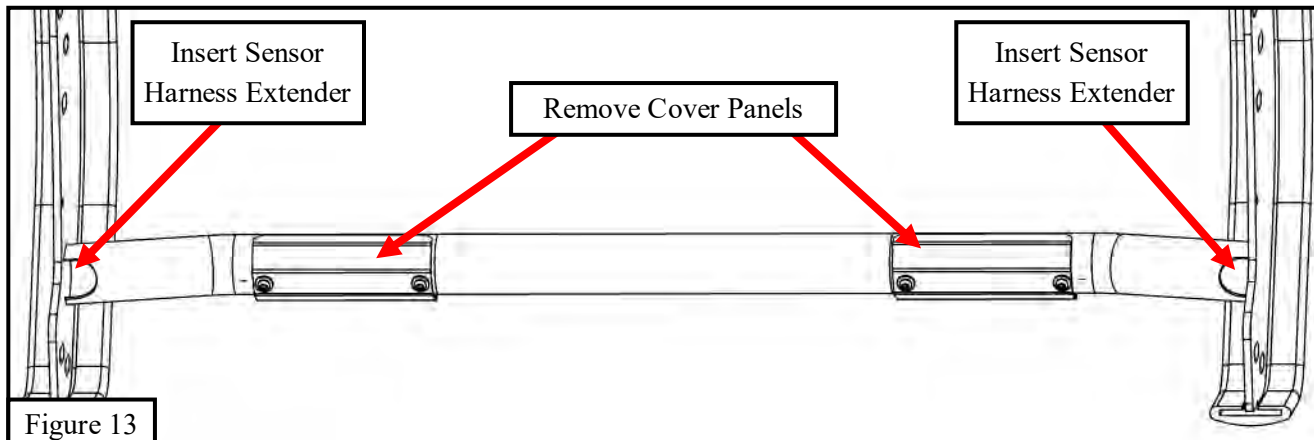
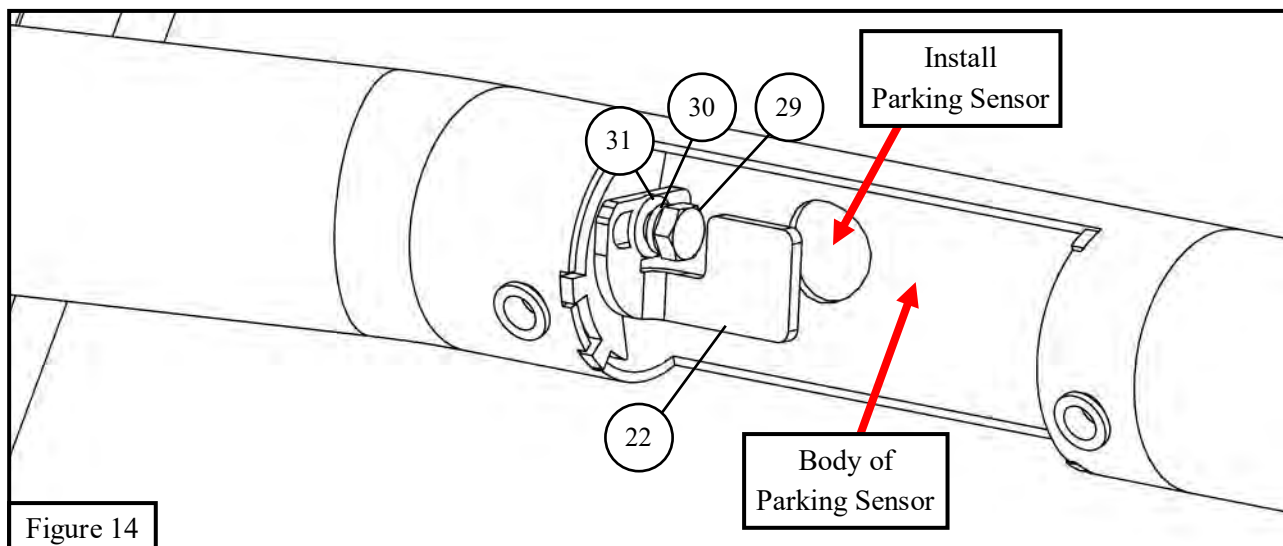

Figure 13
Figure 14
23. Remove the (2) center parking sensors from the front bumper.
24. Remove the cover panels and rubber hole plugs from the grille guard lower tube. See **Figure 13**.
25. Insert (1) sensor harness extender (**item 21**) into the lower grille guard tube. Place one end of the harness extender in the space behind the cover panel. See **Figure 13**.
26. Place (1) piece of double sided tape (**item 36**) on the back of each parking sensor.
27. Install the parking sensors using the M6 hardware (**items 29-31**) and the sensor L-brackets (**items 22-23**). See **Figure 14**.